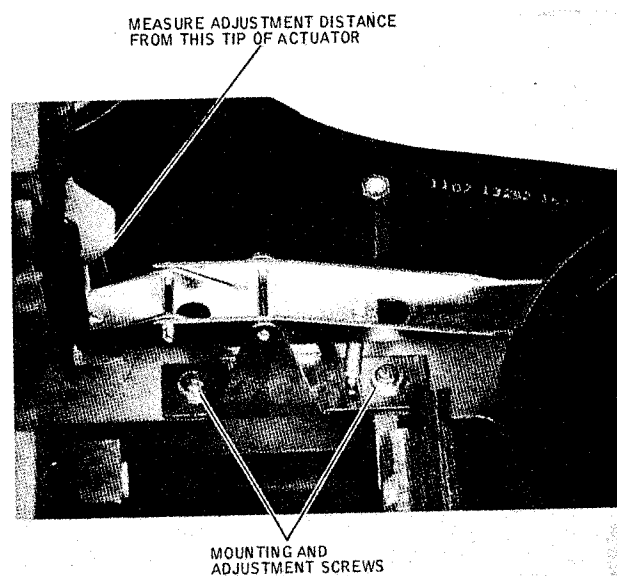

Figure 3-10. Spindle Lock Assembly
3. Loosen both screws (Figure 3-10) that secure the spindle lock to the base plate.